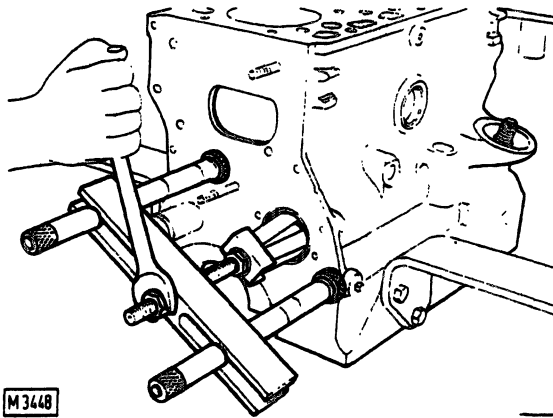

Fig. 21 - Front camshaft bushing removal with universal puller.
- use a universal puller of the type shown in Fig. 21 to remove front bushing, and the same puller with extension for the center bushing;